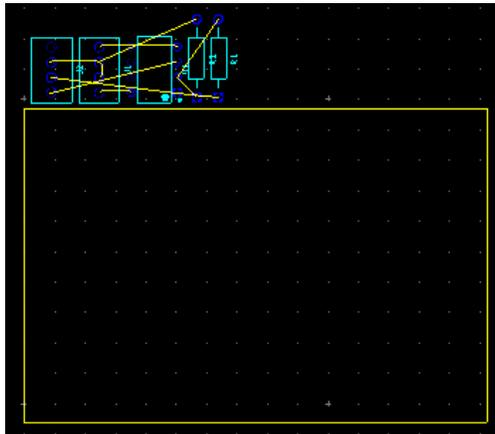

Figure 12. Default board outline and parts transferred from Multisim.
2. Click **OK** to accept all the actions listed in the **Import Netlist** window. Ultiboard will create a default board outline. Note that all the parts are placed outside of the board outline and the yellow lines (ratsnests) identifying the connections between pins, as shown in Figure 12.